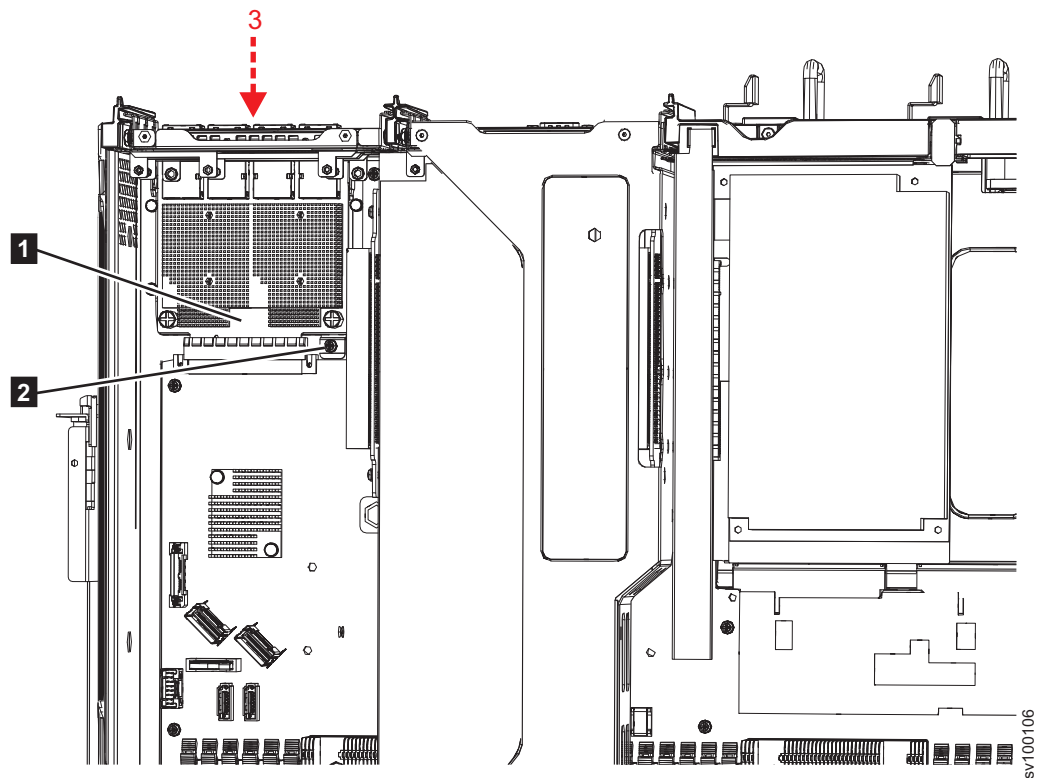

Figure 331. Replacing the 2145-SV1 Ethernet edge board
11. Insert the new Ethernet edge board through the port hole (**3**) at the back of the node, as shown in Figure 331 on page 404.